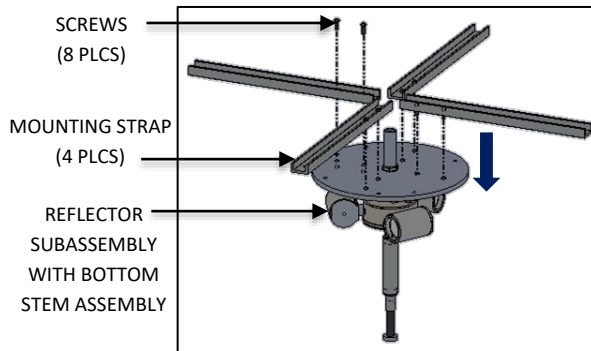

FIG. 13 – MOUNTING STRAPS
3. Assemble MOUNTING STRAPS to the REFLECTOR SUBASSEMBLY by SCREWS provided as shown in FIG. 13.